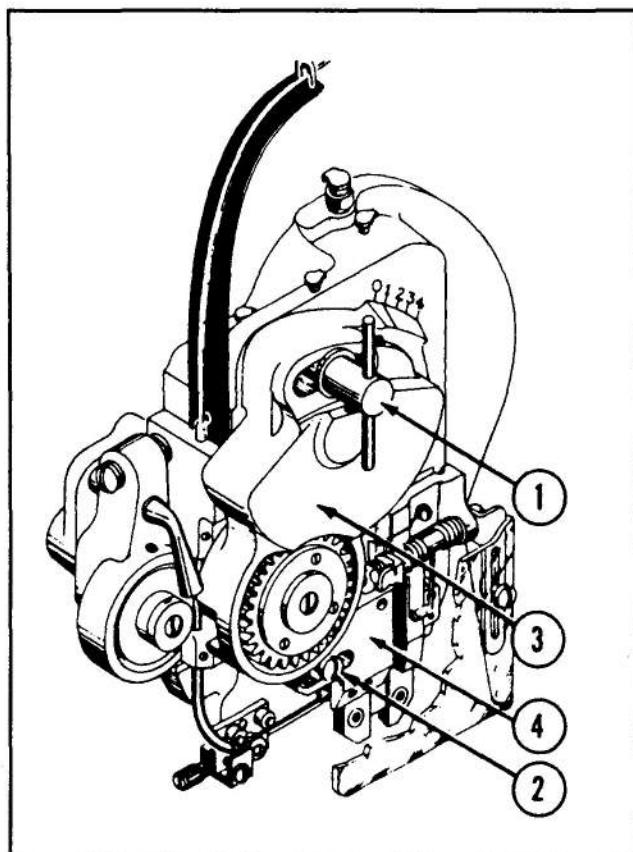

Figure 9 — Wire Draw Adjustments
2—If it is found necessary to relocate the wire feed guard lock screw, (1) Fig. 9, and cutter block holding screw (2), remove both screws, and then shift the
3—The standard wire draw heads are so designed that the cutter block, (4) fig. 9, automatically shifts to the left or right when the wire feed guard is shifted. Relocate the cutter block holding screw (2) in its alternate hole (D, or E, Fig. 7), and tighten screw securely. If head is of the Metal Stitcher type (Model BHM or BHMB), relocate the cutter block holding screw (2) with washer, in its alternate hole (D or E, Fig. 7), but do not tighten. If head being operated is either the long or extra long draw type (Model BHL, BHX or BHML), the cutter block must be shifted manually. Move cutter block, as required, and relocate holding screw and washer (hex head screw and washer used on long and extra long draw heads only); do not tighten screw at this point.
4—If it is not found necessary to relocate the wire feed guard lock screw, (1) Fig. 9, and cutter block holding screw (2), and head being operated is the standard wire draw type, loosen (do not remove) only the wire feed guard lock screw (1); if head is either the metal stitcher type or long or extra long draw type, loosen (do not remove) both screws.
5—To increase or decrease the wire draw on the standard wire draw heads, shift the wire feed guard casting, (3) Fig. 9, to the right or left. As mentioned in step (3) above, any shifting of the wire feed guard automatically adjusts the position of the cutter block so that both legs of the staple are increased or decreased an equal amount.
After the setting has been made, tighten the wire feed guard lock screw, (1) Fig. 9. If head is of the metal stitcher type (Model BHM or BHMB), also tighten the cutter block holding screw, (2) Fig. 9.
After setting the wire feed guard and cutter block, tighten the wire feed guard lock screw and cutter block holding screw, (1) and (2) Fig. 9.